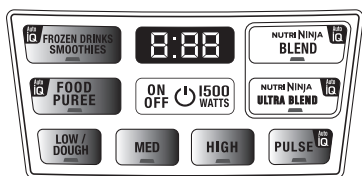

Fig. 6
**NOTE:** Nutri Ninja® | Ninja® Blender System with Auto-iQ™ Technology can sense which jar is on the motor base. The function lights will illuminate depending on which jar is placed on the motor base. (Fig. 6)